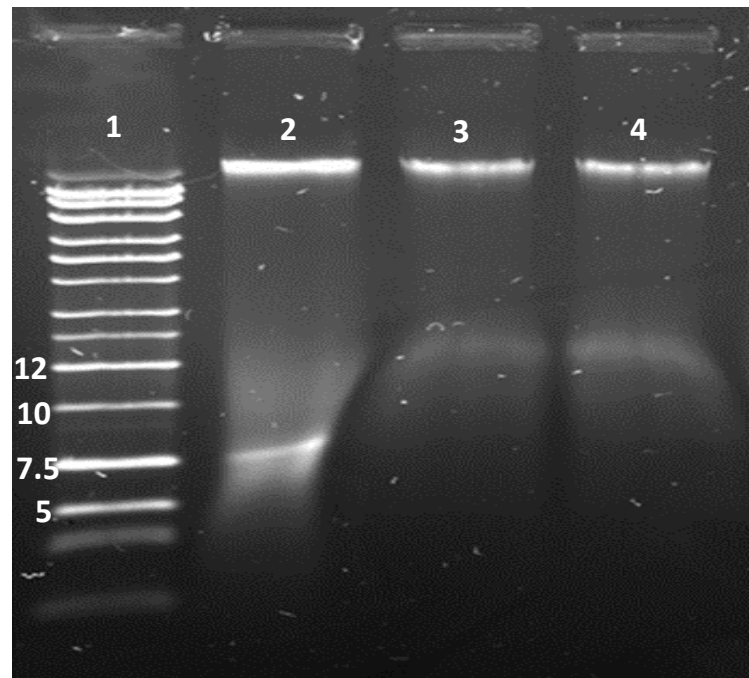

Figure Q3 (c): Agarose gel electrophoresis of polymerase chain reactions (lanes 2- 4) alongside a molecular weight ladder in kilobases (lane 1).
(c) Figure Q3 (c) shows the results from analysis by gel electrophoresis of three different polymerase chain reactions to amplify the Norovirus genome. The PCR reaction mix from the reaction shown in lane 3 and reaction conditions are shown below:
- (i) Analyse the success of the results shown in Figure Q3 (c). [5 marks]